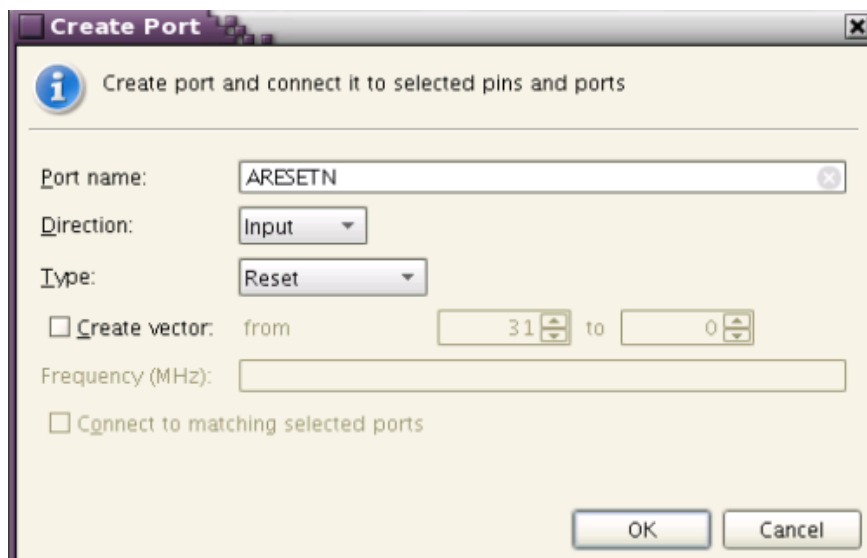

Figure 35: Create Port Window: Adding ARESETN
9. In the Create Port window, enter the following and click **OK** (Figure 35).